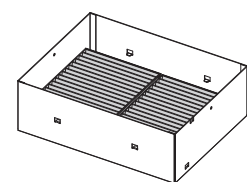

Fig. 3
- When the two air filter units are attached (Fig. 3), proceed to “Attaching the long life filter cover” (➔ page 240) next.